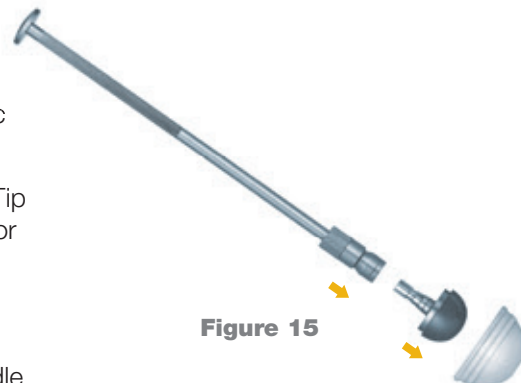

Figure 15
2. Load Silicone Insert Positioner Tip into Insert Positioner/Impactor Handle (Figure 15).
3. Load either the polyethylene or ceramic insert onto the Insert Positioner Tip. Press firmly to ensure insert is being securely held (Figure 15).